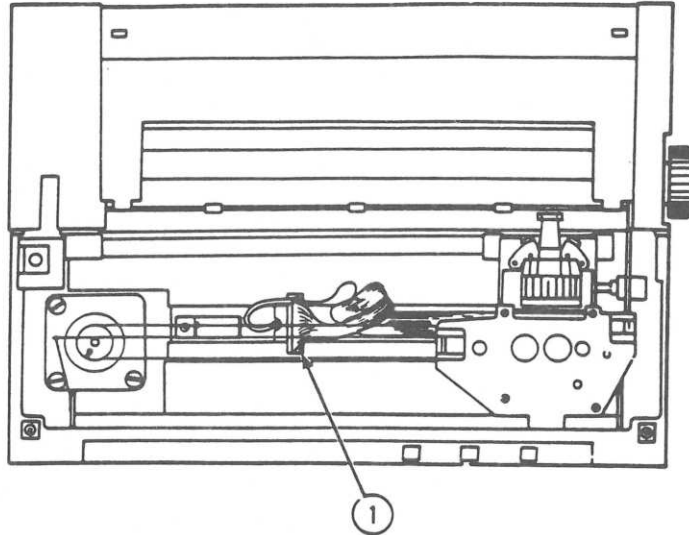

FIGURE 13
7. Push the dot head connector back into CPU PC board. (See Figure 13, #1.)